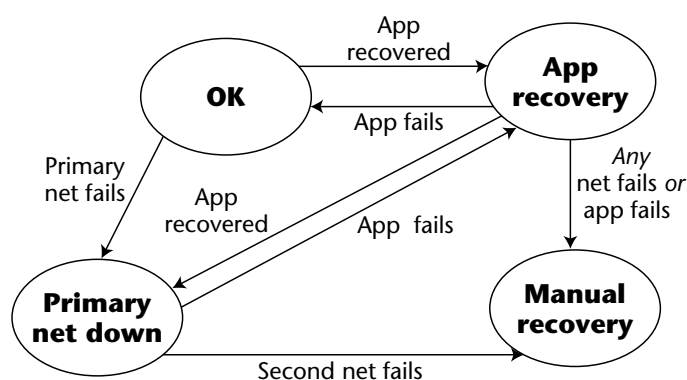

Figure 16.2 A simple state transition diagram.
A state transition diagram shows you how the system flows from one well-defined operational state to another, during the course of certain events. In the diagram, the states are shown as bubbles, while the transitions between the states are labeled with the events or failures that take you from one bubble to another. A very simple state transition diagram is shown in Figure 16.2, where a system has four operational states: (1) OK, (2) Application Recovery, (3) Primary Network Down, and (4) Manual Recovery. Every arrow is labeled with the event that takes you to another state, such as the application failing, a successful recovery of the application (via the FMS), or the failure of the primary or secondary network.
As shown in Figure 16.2, the system is normally in the OK state. If the primary application fails, the system starts recovery (by restarting the application on the same server, for example), and when completed, it goes back to the OK state. If the primary network fails, the system moves to the lower-right-hand state; again, an application fault and recovery loops into the Recovery state and then back to the starting point. But what if something happens during application recovery? At that point, or if the second network fails after the system is already in the Primary Network Down state, manual recovery begins. It's clear when the system is automated, moving between states, and also clear when there have been enough failures or complex, multiple-mode failures that require a human being to make decisions.
- The fewer states your system can occupy, the easier it is to understand. As you develop a transition diagram, you may find a few states that are essentially the same, or that with minor process modifications they can be made to be the same. For example, in Figure 16.2, there's no real reason to have "OK" and "Primary Network Down" be separate states; since both have essentially the same event transitions, they can be merged together. When you reduce the number of possible outcomes, you make it easier to diagnose a system failure.